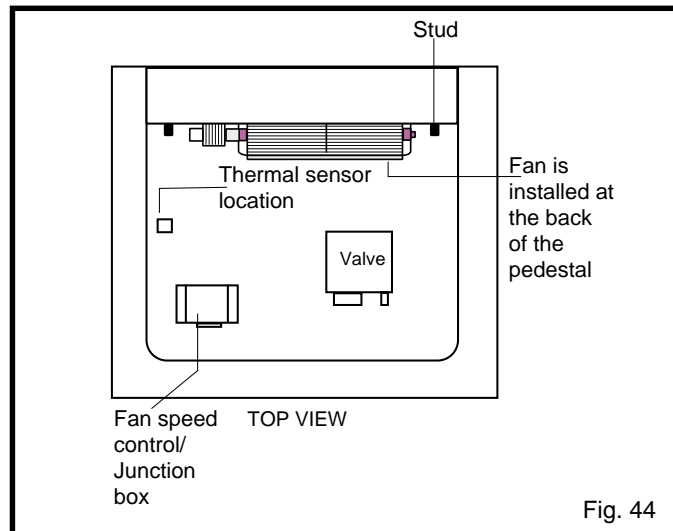

Fig. 44
2. Install the fan through the opening at the back of the pedestal, with the outlet pointed up and the fan mounting bracket facing the back of the fireplace (Fig. 44). . The fan mounts over two studs which hold the fan just below the firebox floor. Hold the fan in place with the two nuts provided.